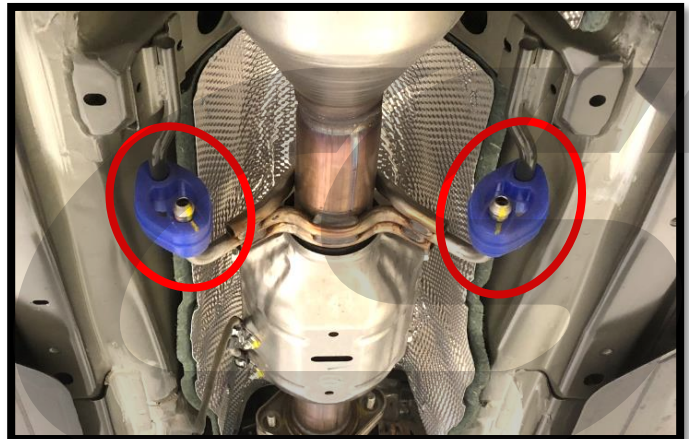

Figure 4c
d) Remove the OEM midpipe section from the two blue rubber hangers. Then remove the OEM midpipe section from the vehicle. The rubber hangers are circled in red in **Figure 4c**.